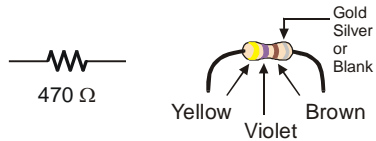
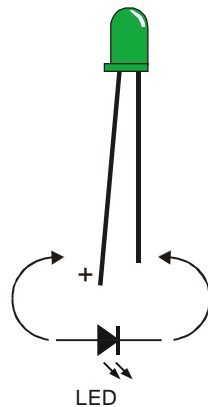

Figure 2-2
Figure 2-4
Let's look at an example: the $470\ \Omega$ resistor shown in Figure 2-2. This resistor has two wires — called *leads* and pronounced “leeds” — one coming out of each end. There is a ceramic case between the two leads, and it contains the part that resists current flow. Many circuit diagrams use the jagged-line symbol shown on the left. This tells the circuit-builder to use a resistor, and the number indicates the required resistance value in ohms. This is numbered jagged line is an example of a *schematic symbol*. The drawing on the right is a part drawing used in this entry-level tutorial to help you identify the resistor needed, and where to place it when you build a circuit.
Figure 2-4 shows an LED's schematic symbol and part drawing. An LED has two leads. One connects to the LED's *anode*, and the other connects to its *cathode*. In this activity, you will build the LED into a circuit, paying attention to make sure the anode and cathode leads are connected to the circuit properly: anode to power, cathode to ground.
Identifying the parts: In addition to the part drawings in Figure 2-2 and Figure 2-4, you can use the photo on the last page of the book to help identify the parts in the kit needed for this and all other activities.
- Use Figure 2-4 to decide which LED lead is the anode and which is the cathode.